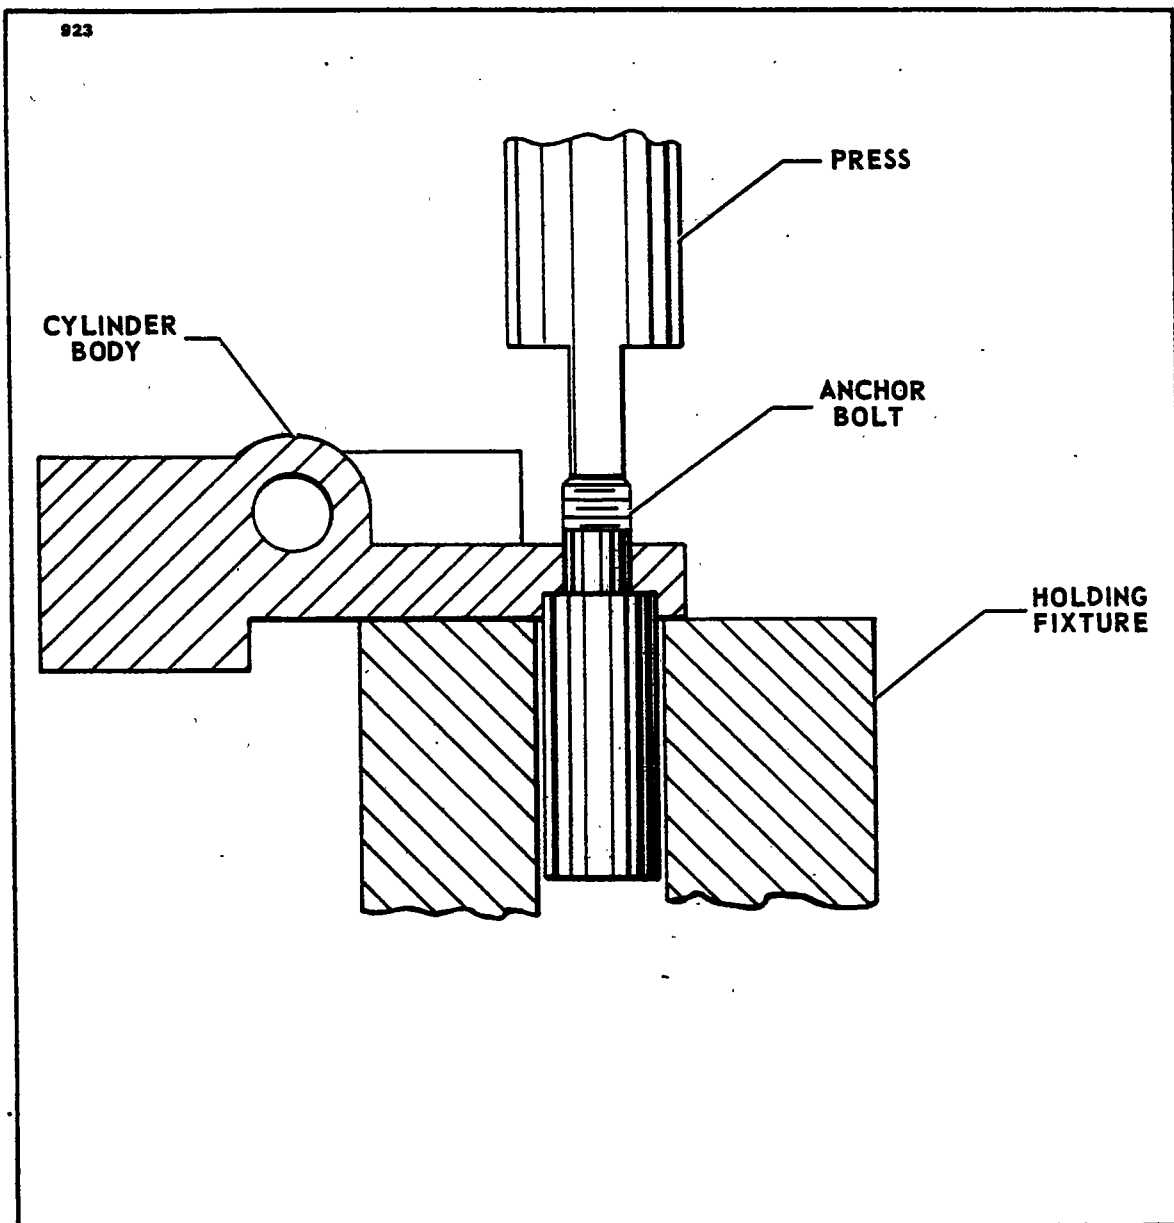

Figure 7-11. Removal of Anchor Bolt
- 1. Position cylinder assembly on a holding fixture. (Refer to Figure 7-11.)